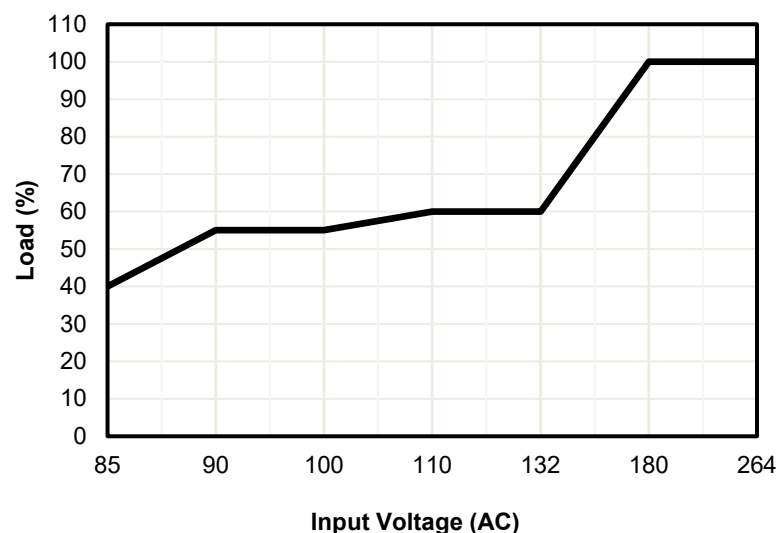

**Fig. 2 De-rating for Horizontal Mounting Orientation**
1. Power supply components may degrade, or be damaged, when the power supply is continuously used outside the shaded region, refer to the graph shown in Fig. 2 & Fig. 3.